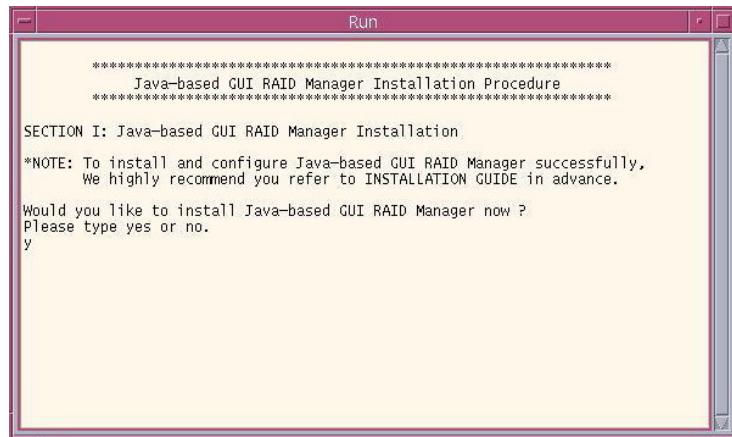

Figure 3-4: The “Run” Window
**Step 5.** A **Run** window prompt will display. (See *Figure 3-4*) To install the Java-based GUI RAIDWatch manager main program, type **YES** and then press **Enter**. This will launch RAIDWatch manager install shield. Please refer to *Section 3.4.5* for step-by-step installation procedures.